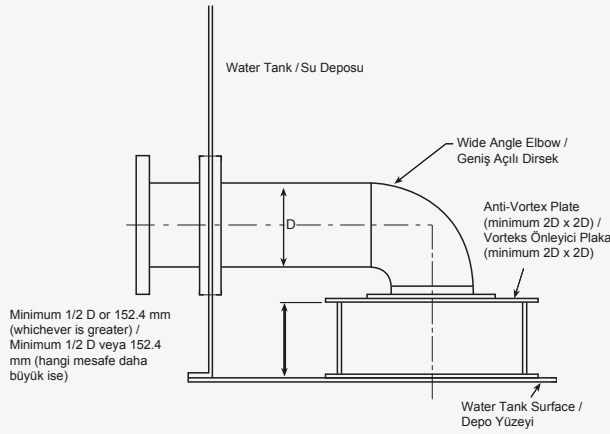

Figure 3: Vortex Plate Dimensions
- If the fire pumps are sucking directly from the tank without a suction collector, a vortex plate should be placed. Vortex plate dimensions should be as follows. Vortex plate dimensions are indicated in "Figure 3".